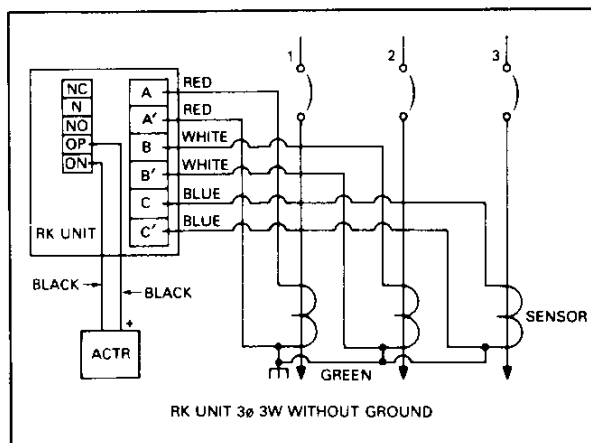

Fig. 8
- Acquaint yourself with the wiring scheme, Fig. 8.